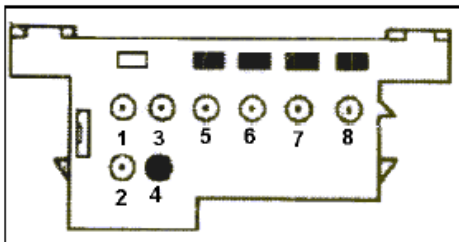

Fig.3.4
4. PIN definition for 8-pin rectangle diagnostic socket (Fig.3.4).